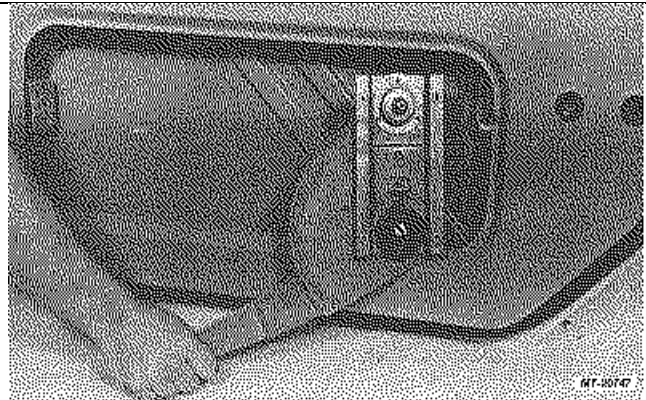

Fig. 18 Removing or Installing Door Glass Regulator
6. Push regulator shaft through hole in door inner panel and remove regulator assembly through access opening (Fig. 18).